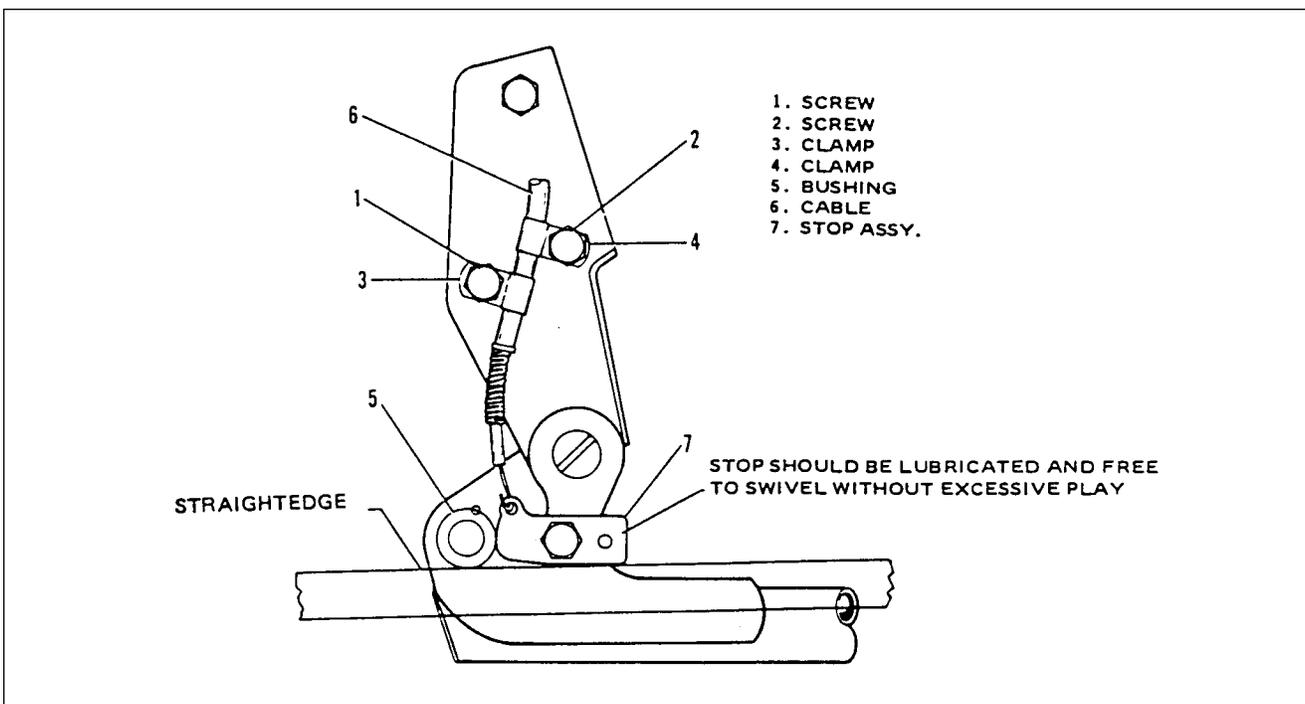

Figure 25-1. Seat Back Lock
**RIGGING INSTRUCTIONS - SEAT BACK LOCK AND RELEASE (figure 25-1)**